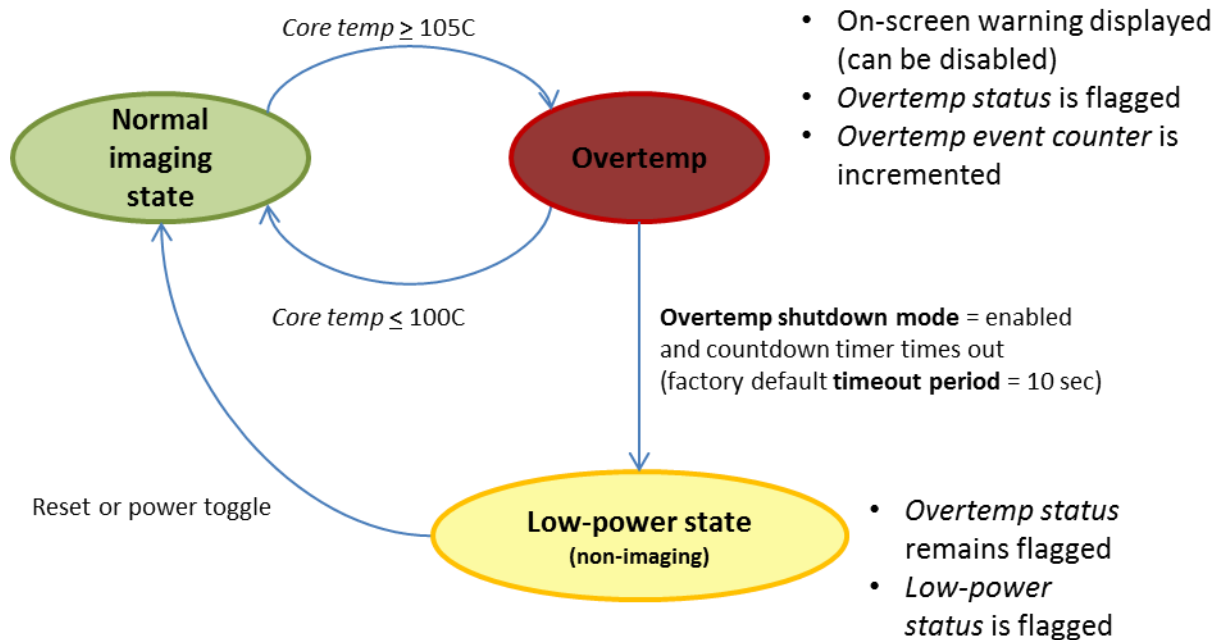

Figure 40: Boson Overtemp and Low-power States
- **Enabled (factory default):** The camera automatically transitions to a low-power state when internal core temperature exceeds the maximum safe value. The camera is capable of responding to commands in the low-power state, but the image pipeline is deliberately disabled to reduce power dissipation and thereby reduce core temperature. As illustrated in Figure 40, the transition between the normal imaging state and the low-power state is via a temporary “overtemp” state, as described below.